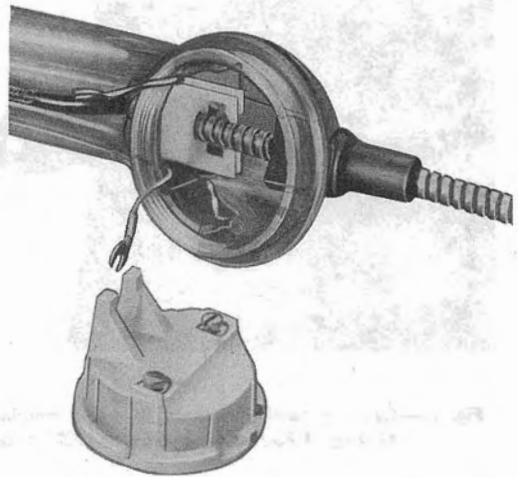

Fig. 15—Handset with Armored Cable
2.25 All current coin collectors and coin telephone sets are equipped with armored handset cords (Fig. 15). Transmitter and receiver caps are cemented to the handset handle. Refer to Section 501-210-102 for complete information on handsets. ◀